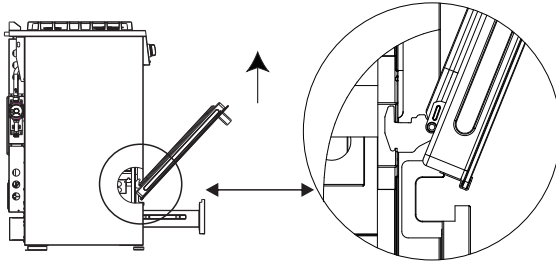
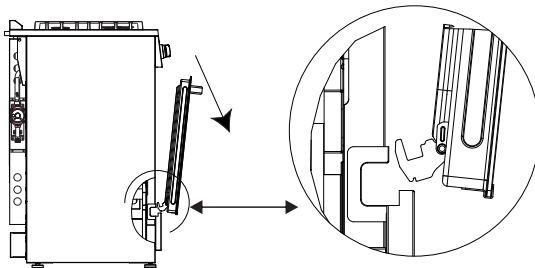

Fig.4
Fig.5
- Carefully pull out the burner (Fig. 4) and rest it inside the oven. Do not damage the ignition wire or safety valve probe.
4. Gently close the door until partially shut, then lift and remove it from the hinge slots (Fig. 4 & Fig. 5).